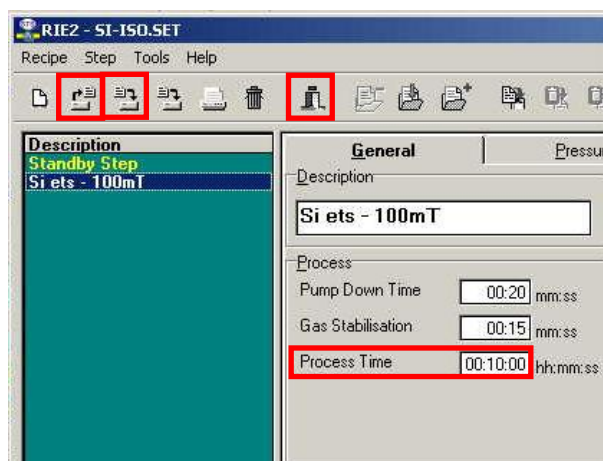

Fig.6: Recipe Editor (RIE-2).
4.3.3 Press **Recipe** to enter the *Recipe Editor* (Fig.6) to check or change the process time.